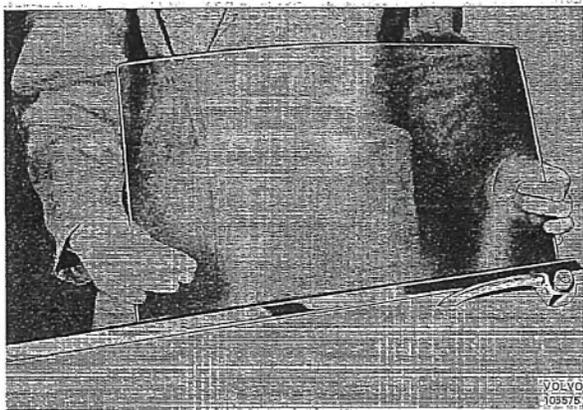

Fig. 8-27. Taking out winding window
3. Release the screws (1) and lift up the winding window (Fig. 8-27).